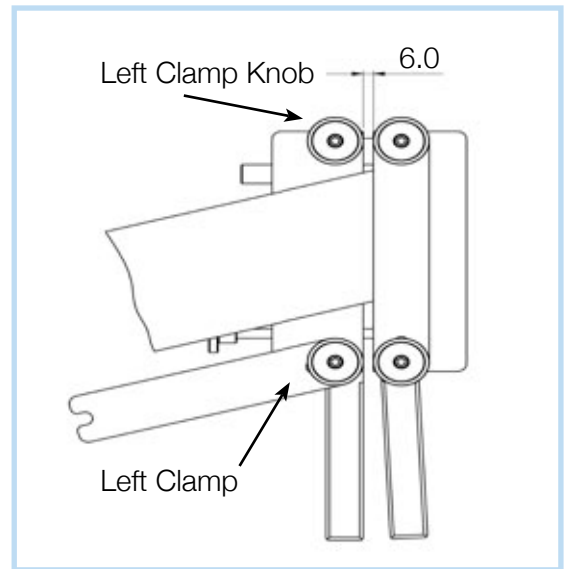

Figure 3
2. Loosen the left clamp knobs and swing the clamp out to permit positioning the belt (See Figure 3).